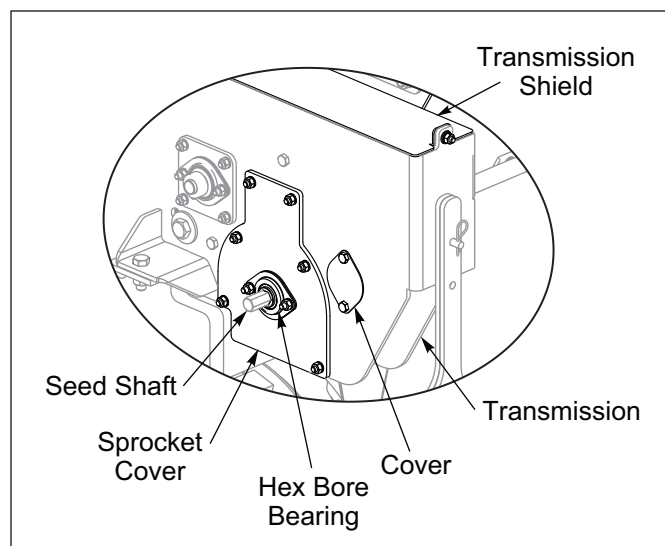

Figure 2-46: Transmission Shield
12. Remove Transmission Shield, Sprocket Cover and 2-Hole Cover from Transmission. **See Figure 2-46.**